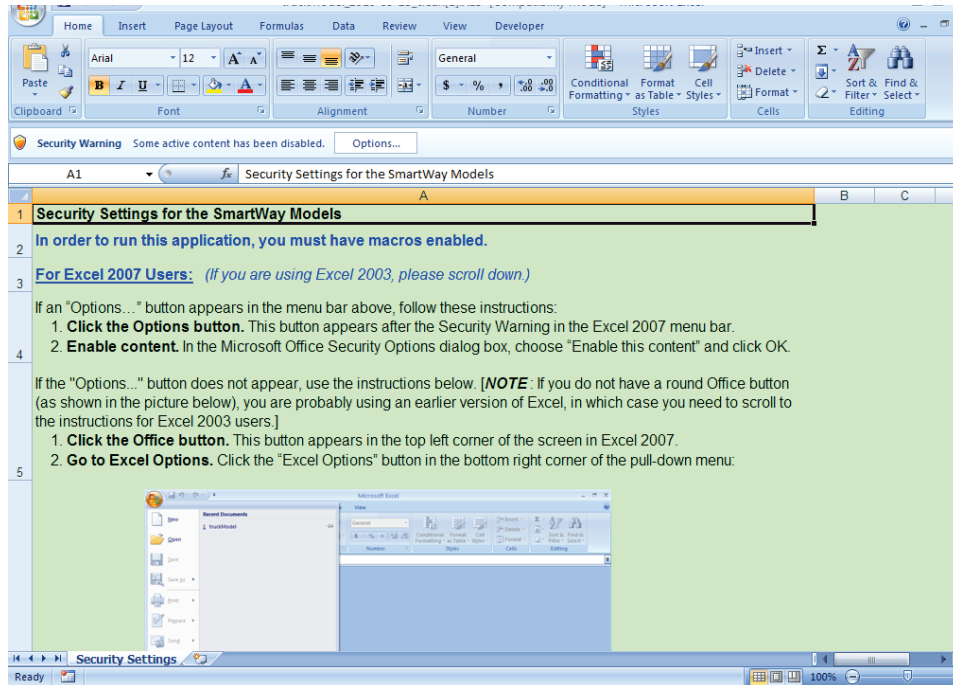

Figure 5 Security Warning Screen
- 2) Open the file, and select the “Options...” button that appears after the Security Warning just below the menu bar (**Figure 5**). Detailed instructions are also provided on the screen itself.